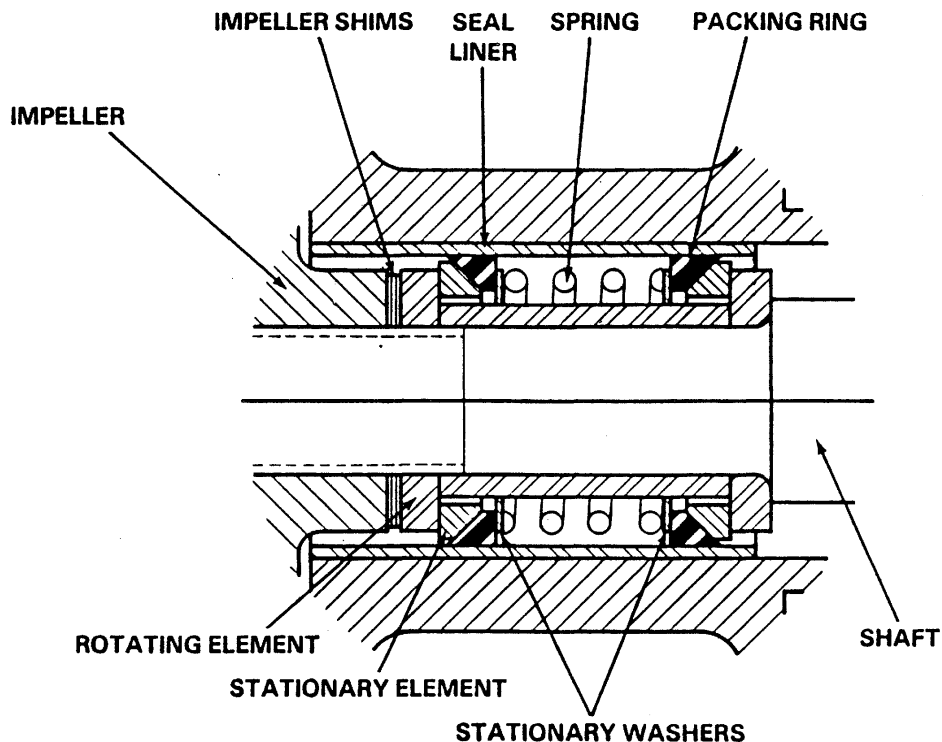

Figure 3. GS00650 Seal Assembly
To ease installation of the seal, lubricate the packing rings and seal liner (11) with water or a very **small** amount of oil, and apply a drop of light lubricating oil on the finished faces. Assemble the seal as follows, (see Figure 3).